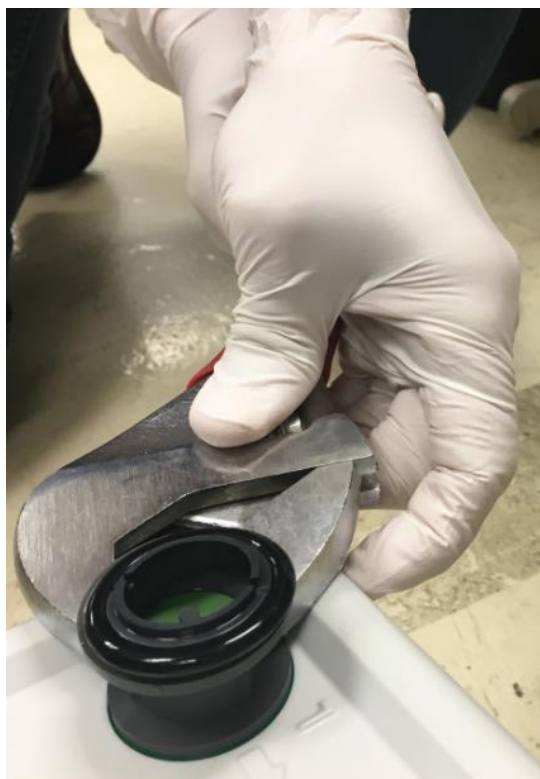

Figure 25: Tightening the gray exhaust port adapter
- 4) Tighten the gray exhaust port adapter on the pump using an adjustable wrench. It is important that this is tight to prevent oil from leaking. See Figure 25.